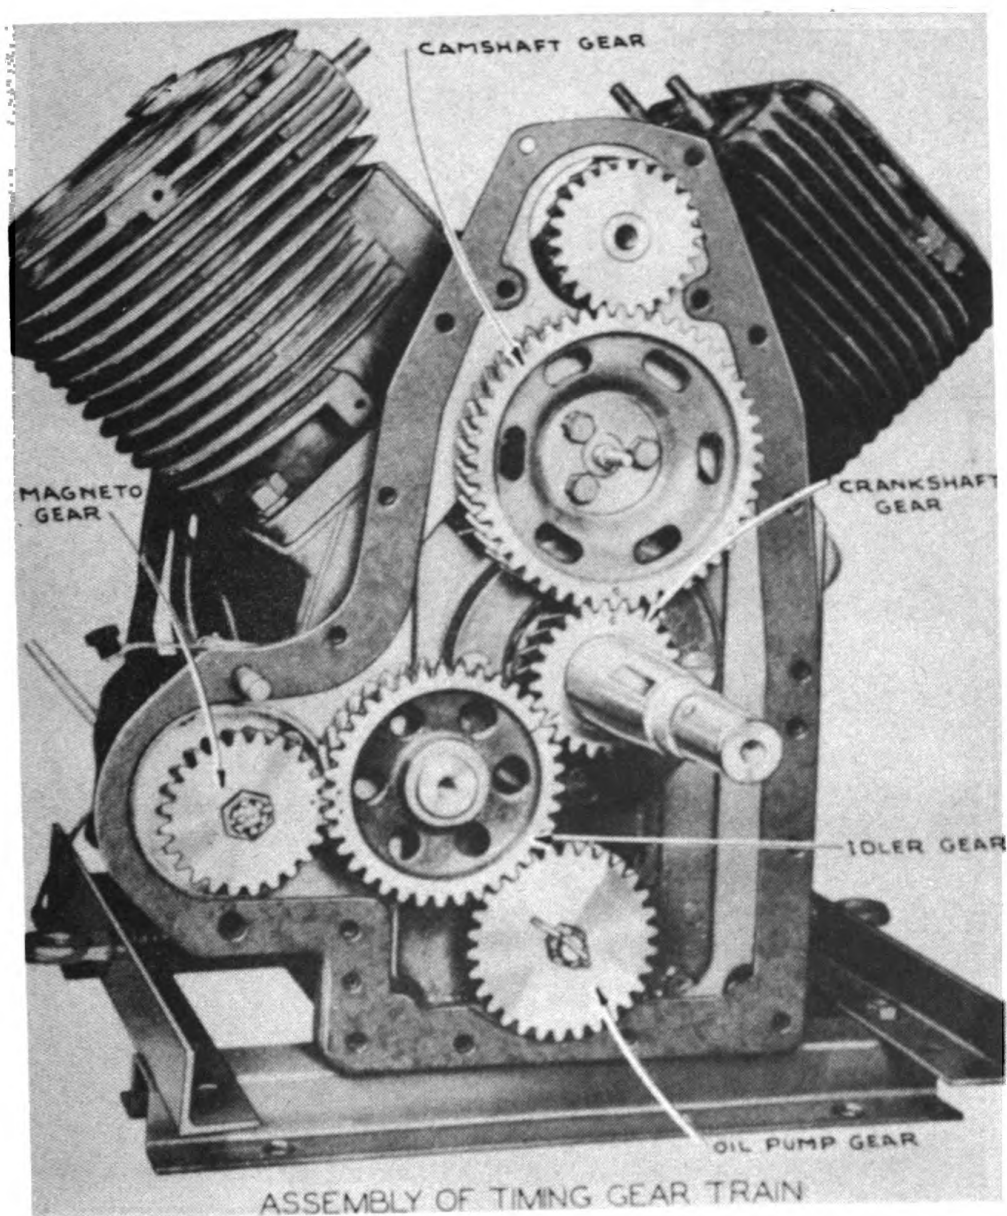

Fig. 69
**CAUTION:** In order to have the gears properly in time the gears are marked and must be assembled in accordance with the timing diagram marks. It will be noticed upon inspection that a "C" is stamped on the camshaft gear and also on the crankshaft gear. When the camshaft gear is installed the gears must mesh so that the "C" on the camshaft gear lines up with the "C" on the crankshaft gear. This is also the case of the idler gear, and on this gear the "I" must line up with the "I" on the crankshaft gear. (Fig. 69)
To install the gear it should be driven on to the oil pump shaft, being sure that the woodruff key is in proper position. The slotted nut and cotter pin which lock the oil pump gear to the shaft should then be installed. (Fig. 69).